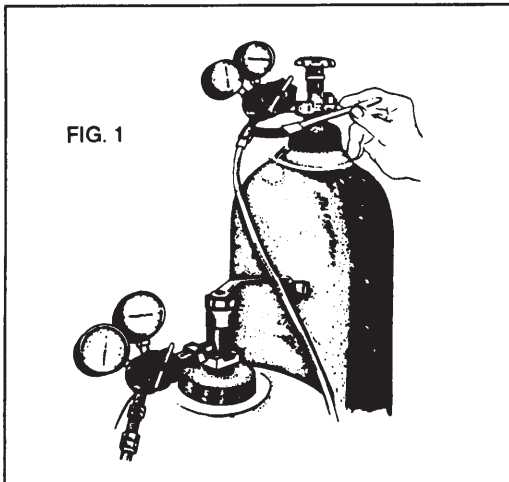

FIG. 1
2. With the system pressurized and the torch body valves closed, test all fittings for leaks as shown in FIGURE 1.
- test all fittings for leaks as shown in FIGURE 1 on page 13.